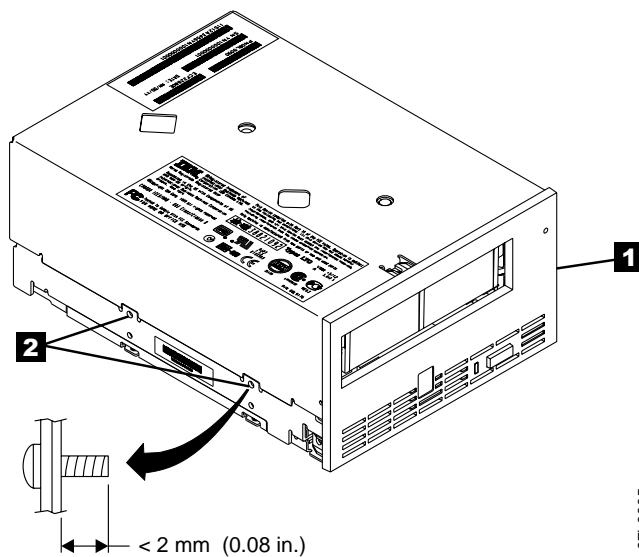

Figure 7. Mounting Holes on Ultrium Tape Drive. The holes are located on both sides of the drive. The tape drive is shown with a front bezel.
2. Insert two 6-32 screws into the mounting holes on the side brackets of the chassis (see **2** in Figure 7).